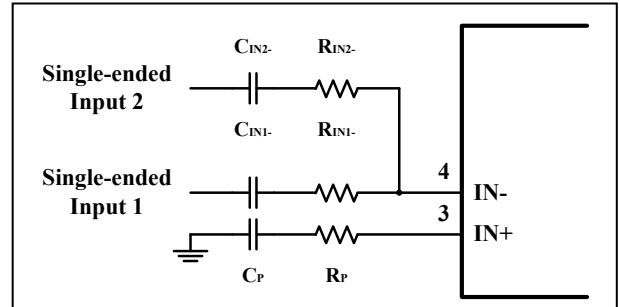

Figure 16 Application Circuit with Summing Two Single-Ended Inputs
The corner frequencies (f_{c1} and f_{c2}) for each input source can be set independently by Equations (9) and (10). Resistor, R_P , and capacitor, C_P , are needed on the IN+ terminal to match the impedance on the IN-terminal (Figure 16). The gain for each input source can be set independently by Equations (4) and (5).